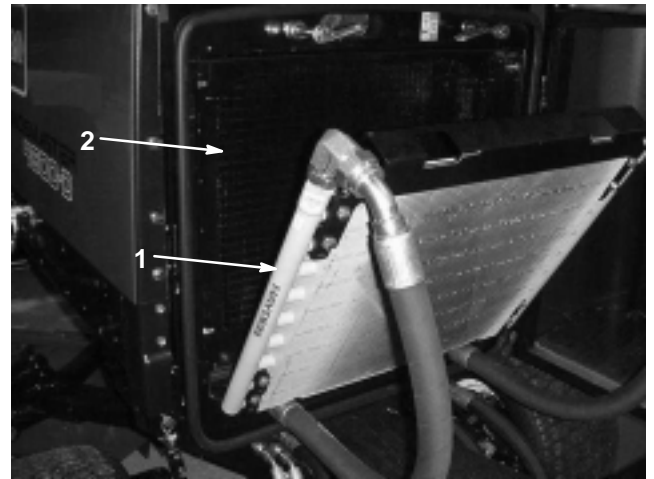

Figure 38
- Pivot the oil cooler rearward. Clean both sides of the oil cooler and radiator area (Fig. 38) thoroughly with compressed air.